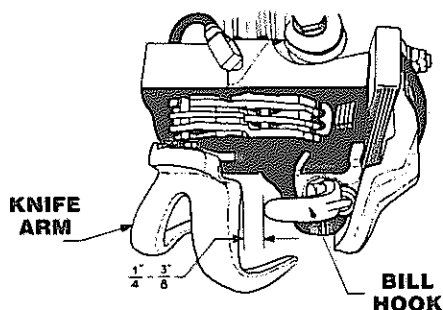

Fig. 27
2. The knife arm should be $\frac{3}{4}$ inch to $\frac{7}{8}$ inch past the end of the knotter bill hook when the knife arm is in the most extreme position, see Fig. 27. Correct the adjustment of the knife arm by replacing it. **NOTE:** On knotters with a coiled twine holder spring measurements are $\frac{3}{4}$ inch to $\frac{7}{8}$ inch.